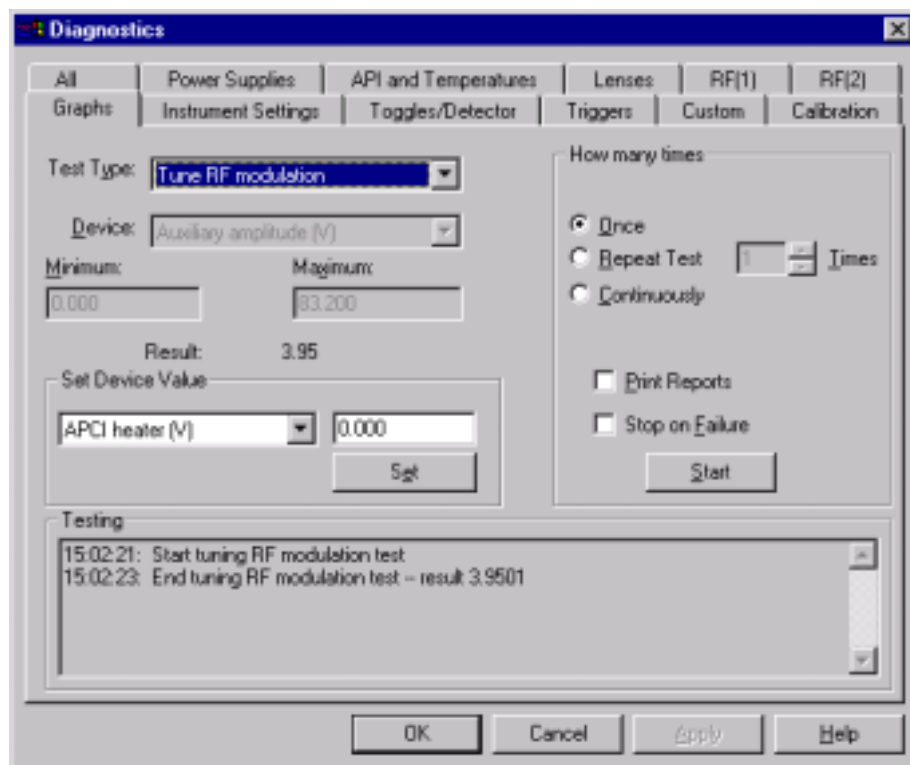

Figure 5-4. Diagnostics dialog box (Graph page)
- c. Select the **Graphs** tab. See Figure 5-4.